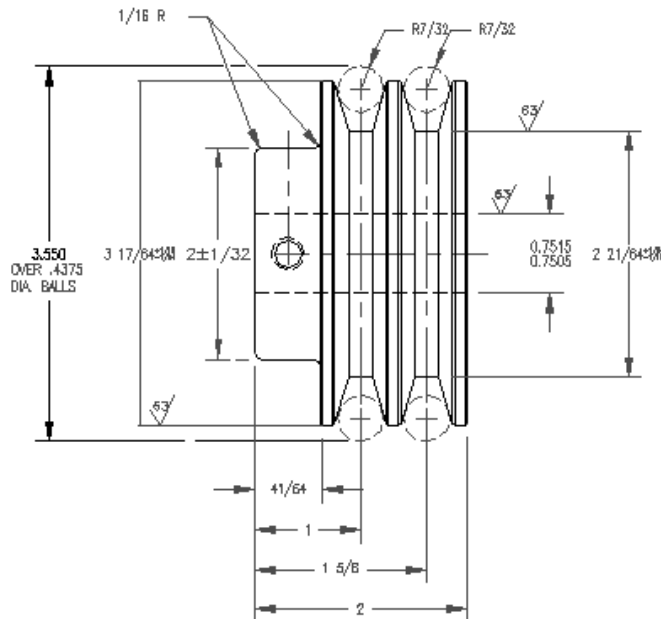

Figure 14-34: The model with added radius and baseline dimensions
5. Save your drawing. It should look approximately like Figure 14-34.